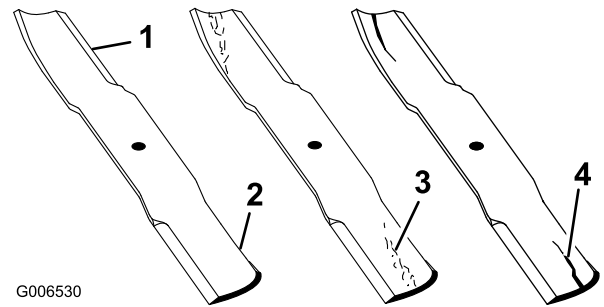

Figure 87
1. Inspect the cutting edges (Figure 87). If the edges are not sharp or have nicks, remove and sharpen the blades. Refer to Sharpening the Blades.
2. Inspect the blades, especially the curved area (Figure 87). If you notice any damage, wear, or a slot forming in this area (Figure 87), immediately install a new blade.